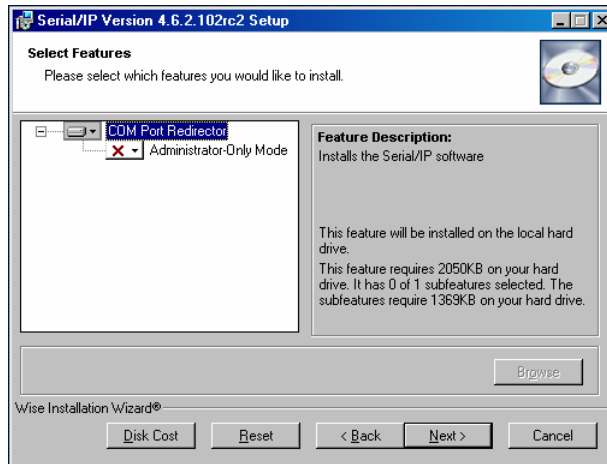

Figure 47: Select Features Dialog Box
9.	Click the NEXT button and the “select features” dialog box will appear, as shown in Figure 47.